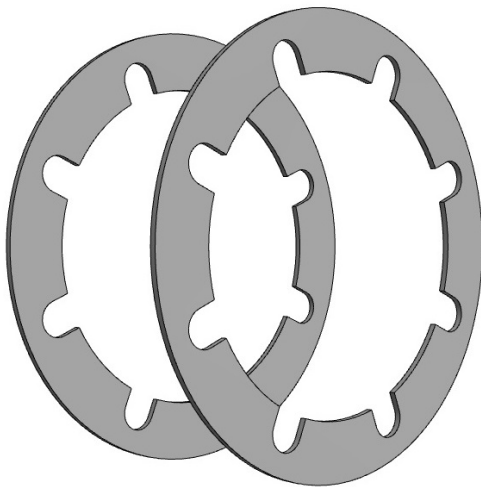

Figure 6
- The flange compensation rings must be fitted as shown in Figure 6.